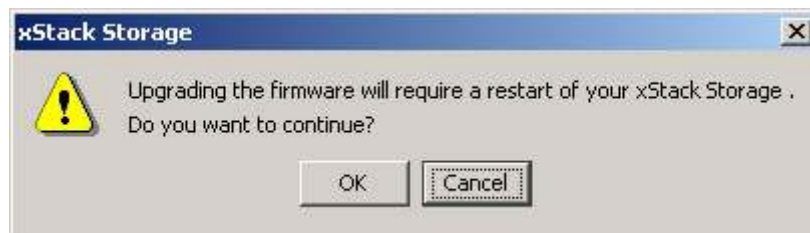

Figure E-1 Firmware Upgrade Message
7. On the **View** menu, click **Firmware Upgrade**. The message in Figure E-1 Firmware Upgrade Message appears.